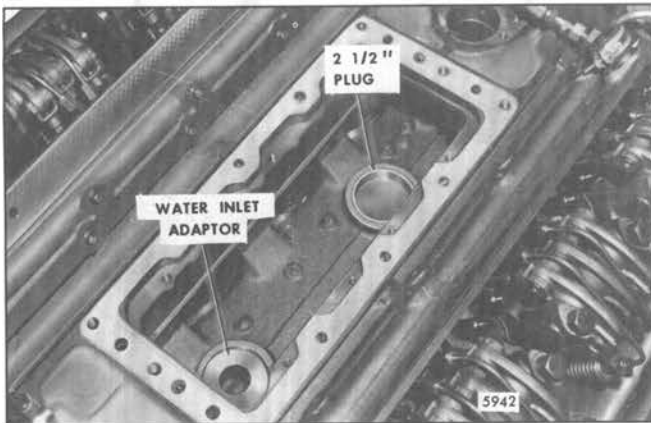

Fig. 4 - Installing Aftercooler Water Plug
When a new service cylinder block is used for an aftercooled engine, it will be necessary to remove the 2 1/2" plug in the rear core hole in the bottom of the air box and the 2 1/4" plug in the top deck of the block in front of the blower mounting pad (Fig. 4). Then, install the water inlet adaptor in the rear air box hole and the water outlet elbow and gasket in the opening in the top deck of the block.
- b. Drive the plugs in place with handle J 7079-02 and adaptor J 24597 (2 1/2" diameter cup plugs - Fig. 4) or adaptor J 21850 (1 5/8" diameter cup plugs).